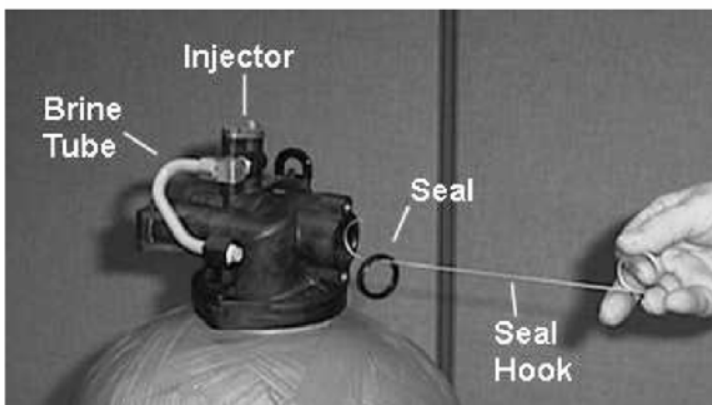

Figure 6
6. Remove the seal ! rst using the wire hook with the ! nger loop (see Figure 6).